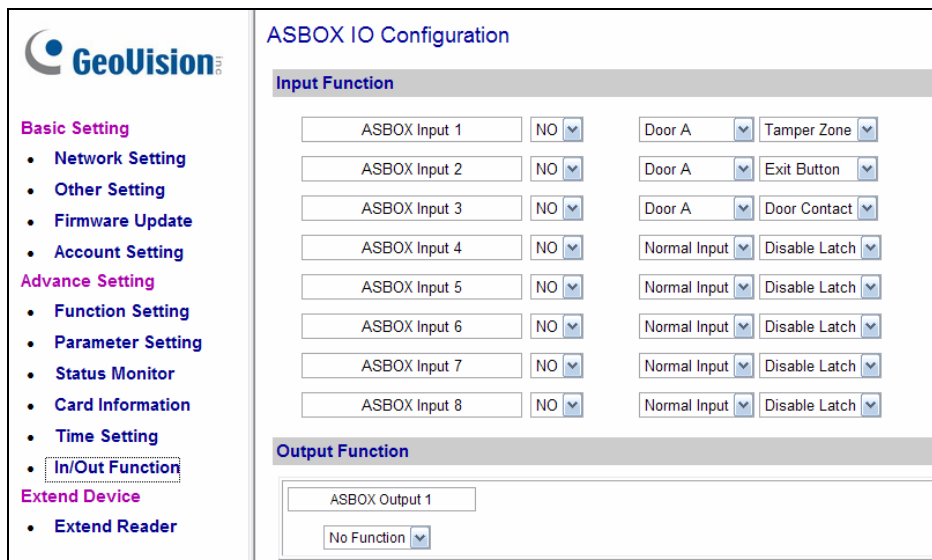

Figure 10-23
Select **Yes** or **No** to enable or disable the alarm function. If you have defined the alarm conditions in [Output Function] of the **In/Out Function** page (Figure 10-23), remember to activate the corresponding alarms here; otherwise, even though the alarm conditions are met, the expected alarm will not be triggered. The default settings for all the alarms are set to **NO**.
**Control Mode** will change depending on the chosen Door/Gate's **Authentication Mode** in the **Function Setting** page (Figure 10-15). The listed number of outputs will change depending on the chosen **Output Type** in the **In/Out Function** page (Figure 10-23).